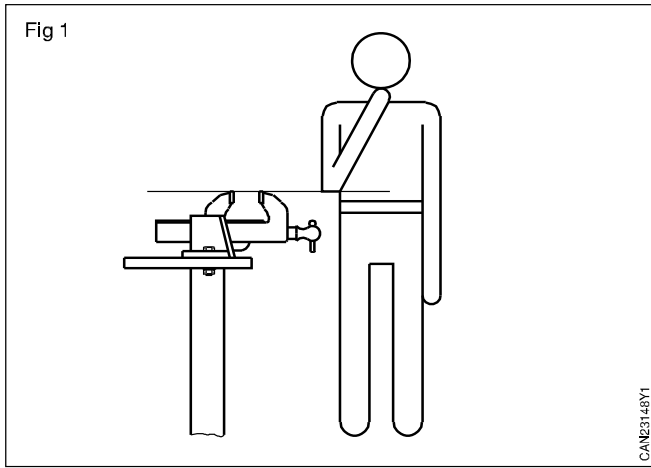

Fig 1
After chain drilling and hacksawing the other sides, a chisel is used to part off the metal A. (Fig 1)
**Before commencing chipping:** Select a mushroom-free chisel and choose a hammer with a well secured handle. (Fig 1)
Keep the teeth of the hacksaw blade point in the direction of the cut and away from the handle. (Fig 1)
Check the height of the bench vice. (Fig 1) If the height is more, use a platform and if it is less, select and use another work bench.
Align the machine spindle with the drilled hole to be countersink. (Fig 1)
- File to size  $\varnothing 11.9$  mm x 40 mm length as shown in Fig 1.
- Match the nut with bolt as shown in Fig 1.